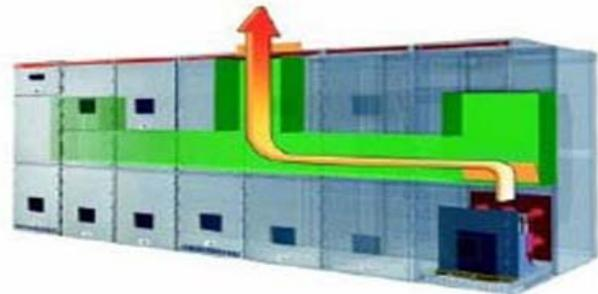

Figure 4 – Illustration of Arc Resistant Venting
- Figures 4 illustrates the re-direction and venting of the arcing fault.